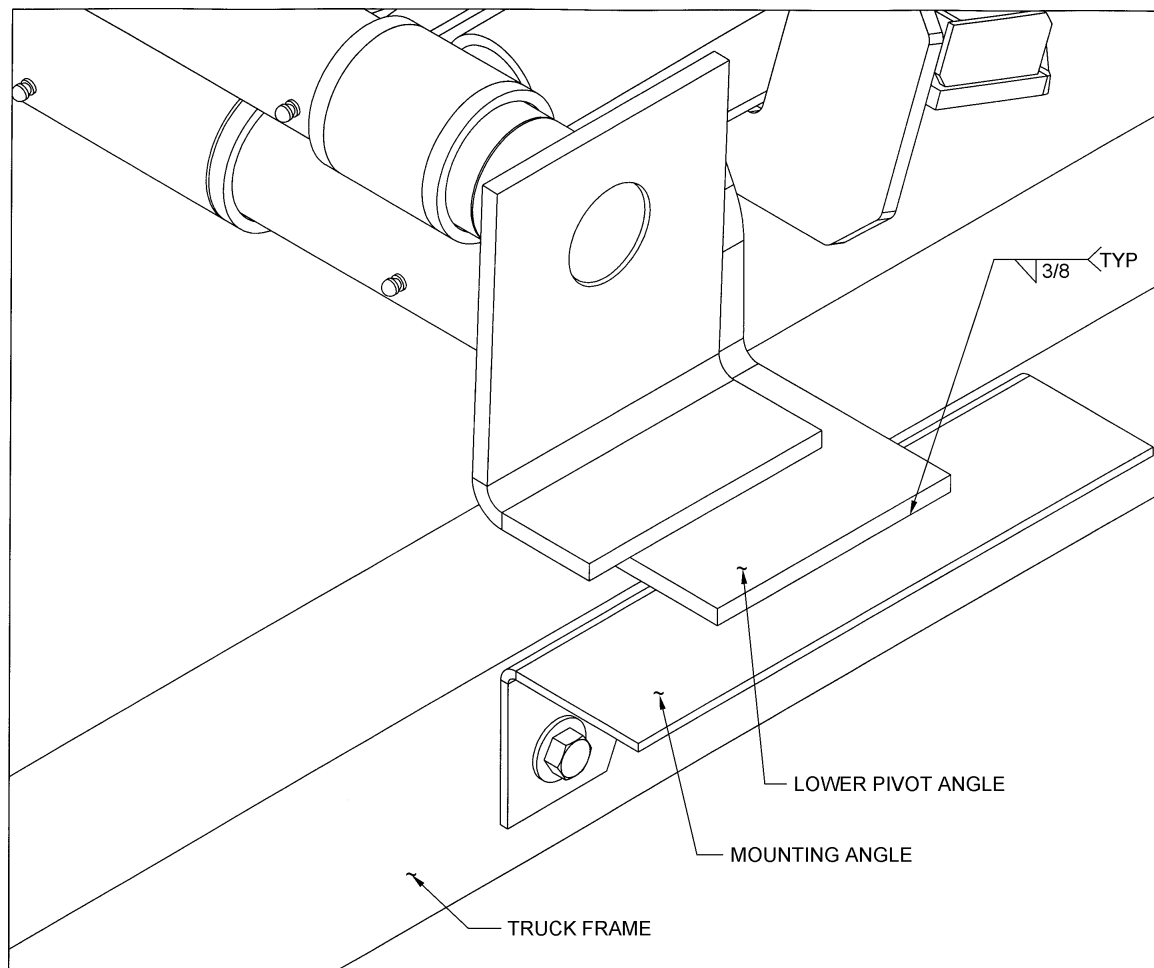

Figure 3 - Mounting Angle Assembly
- . After the hoist is positioned, place the mounting angles (Figure 3) under the lower pivot angles and against the truck frame. Clamp securely in place. Drill through the frame and install the mounting angle with two (2) 1½" x 1-1½" hex head cap screws, lock washers, and hex nuts, and four flatwashers (both sides).
- F. Weld each end of the lower pivot angle to its mounting angle as shown in Figure 3. Note the welding symbols. Do not weld to the truck frame.